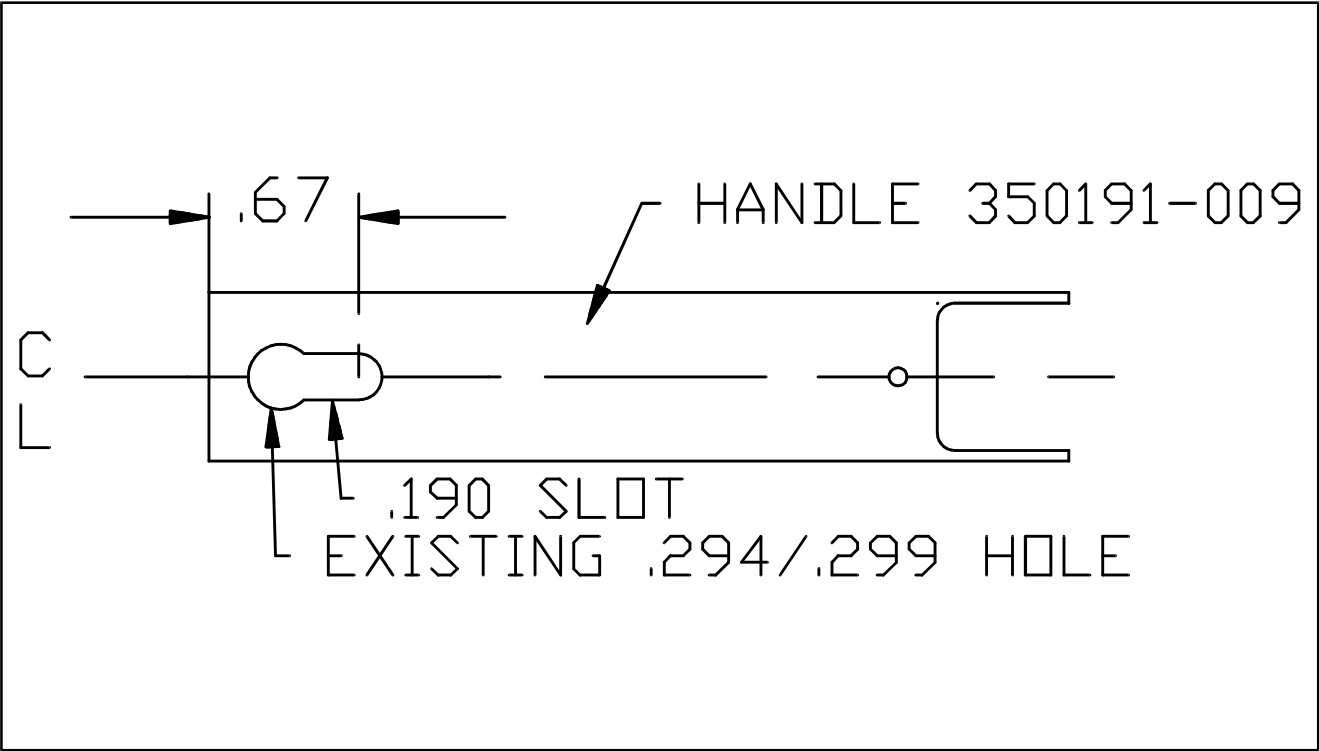
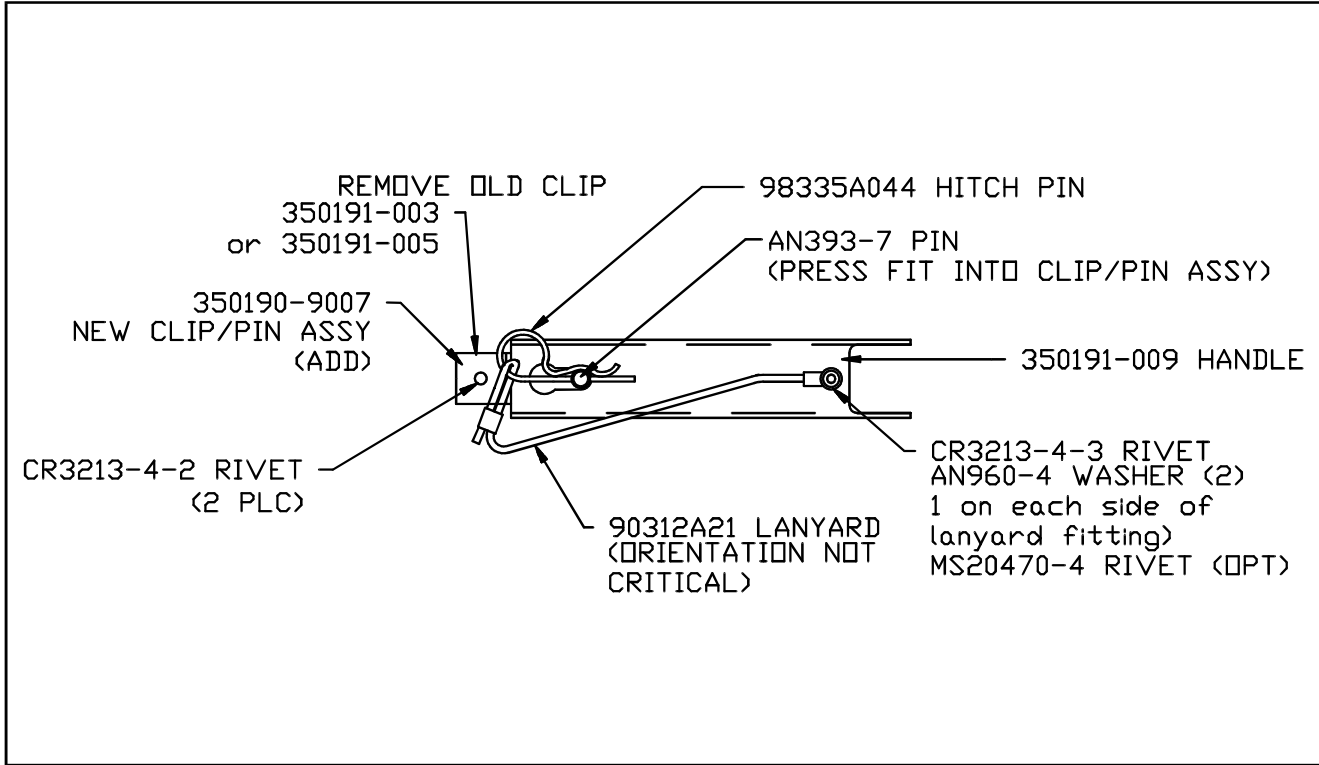

FIGURE M20-239-1
FIGURE M20-239-2
7. Modify large round hole in red handle to a slotted hole per Figure M20-239-1.
8. Remove existing clip, P/N 350191-003 or -005, from door frame by drilling out two (2) rivets.
9. Install 350191-9007 clip/pin assembly, with small hole toward red handle pivot point; locating pin relative to slot in handle as illustrated in Figure M20-239-2. Existing holes should line up; if not, drill two (# 30 drill) holes into baggage door using pilot holes in clip/pin assy as a guide. Install with two CR3213-4-2 rivets.
10. Install lanyard, P/N 90312A21, on red handle per Figure M20-239-2. Use CR3213-4-3 rivet and two AN960-4 washers (one under rivet head and one on back side of red handle).